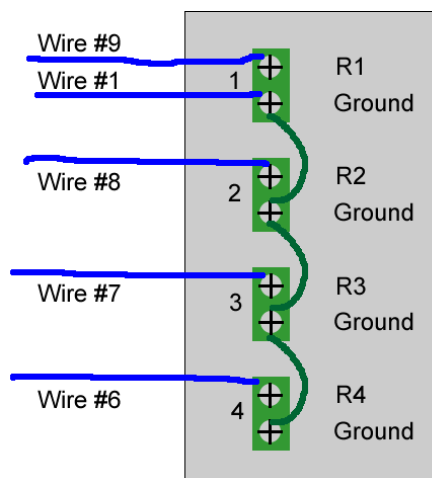

Fig 2. Wire connections for multi-position MX Series II Modules. Wire colors will vary.
- Using the provided jumper wires, jumper the ground terminals of event relays 2 (R2), 3 (R3), and 4 (R4), as shown in figure 2.
- (3) Connect the wires of the interface cable to the instrument with 4-line BCD control as shown in figure 2.
- (4) A 4-line BCD generic time programming example follows. (Note- the actual programming will vary depending on the manufacturer of the instrument used. Hookup documents for selected instruments are available at <http://www.rheodyne.com/support/>.)